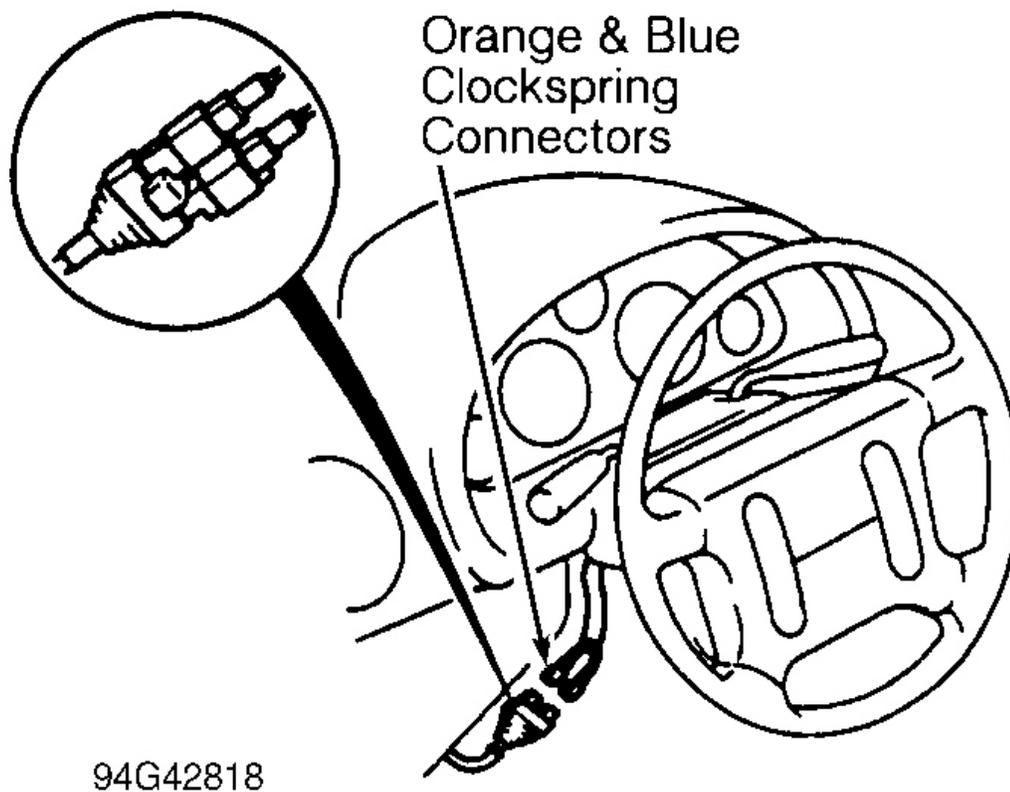
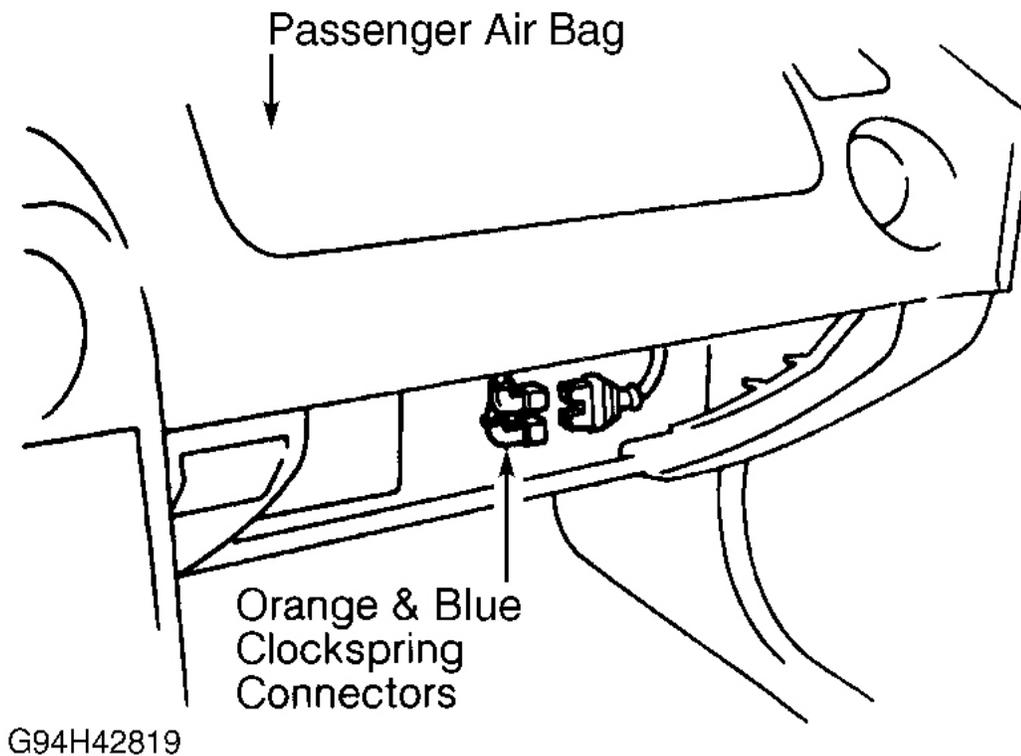

Fig. 2: Locating Driver Air Bag Clockspring Connectors
Fig. 3: Locating Passenger Air Bag Clockspring Connectors
Cancel radio anti-theft function. See **CANCELING & ACTIVATING RADIO ANTI-THEFT** under DISABLING & ACTIVATING AIR BAG SYSTEM. Disconnect and shield negative battery cable. Wait at least 10 minutes for back-up power supply to be depleted. Remove cover panel below left side of instrument panel. Disconnect Orange and Blue clockspring connectors for driver air bag. See **Fig. 2** . Remove glove compartment. Disconnect Orange and Blue passenger air bag module connectors. See **Fig. 3** .
Ensure negative battery cable is disconnected. Connect Orange and Blue passenger air bag module connectors. See **Fig. 3** . Install glove compartment. Connect driver air bag Orange and Blue clockspring connectors. See **Fig. 2** . Install lower cover panel. Connect negative battery cable. See **TESTING - SYSTEM OPERATION CHECK** . Activate radio anti-theft function. See **CANCELING & ACTIVATING RADIO ANTI-THEFT** under **DISABLING & ACTIVATING AIR BAG SYSTEM**.
2. Ensure air bag module is firmly mounted to steering wheel. Remove cover panel below left side of instrument panel. Disconnect Orange and Blue clockspring connectors for driver air bag. See **Fig. 2** .
2. Remove glove compartment. Disconnect Orange and Blue passenger air bag module connectors. See **Fig. 3**. Connect deployment tool connector "A" to Orange and Blue passenger air bag connector. See **Fig. 4**. Connect Red deployment tool clip to battery positive terminal. Connect Black deployment tool clip to battery negative terminal. Verify deployment tool Red light is on.